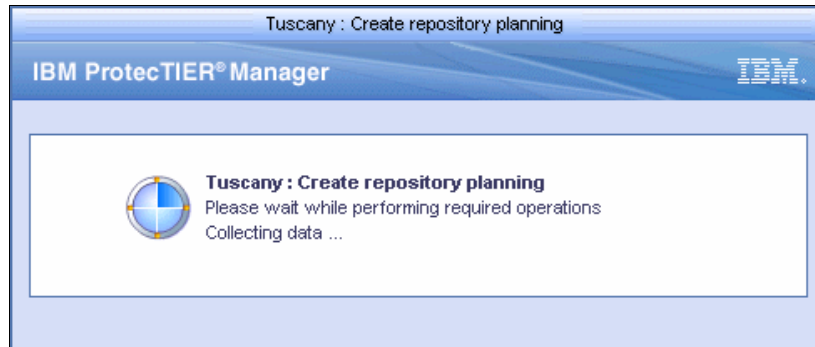

Figure 5-47 Create repository planning
- Click **OK**. A processing window opens, as shown in Figure 5-47). The Repository metadata storage requirements window opens with a list of file system arrangement options that are suitable for your needs (Figure 5-48).